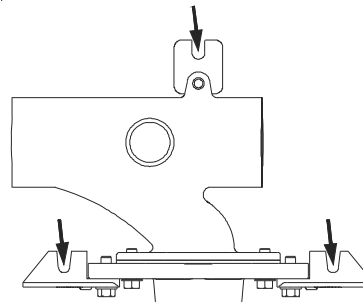

Fig. 7 TOP VIEW
- Align the carrier with the waste line. Mark locations on the floor for anchoring studs. See Fig. 7